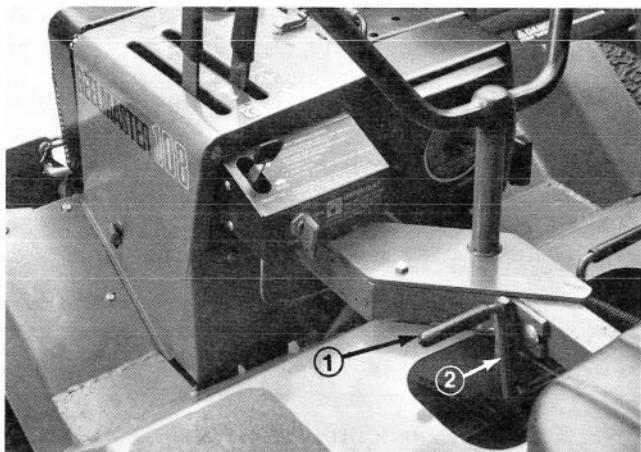

Figure 13
2. Sit on seat, and grasp ends of transport hook, lift cutting unit up and slide transport hooks over transport bar on sulky (Fig. 13).
3. Sit on seat, lift up on transport hook and lower cutting unit (Fig. 13).